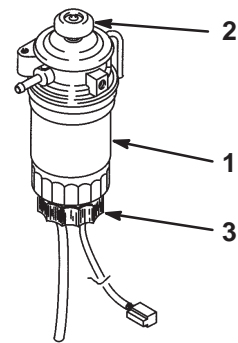

Figure 22
- Open the drain plug on the fuel filter/water separator approximately one turn and drain any accumulated water. If necessary, operate the priming pump to drain the water (Fig. 22). Tighten the plug after draining.